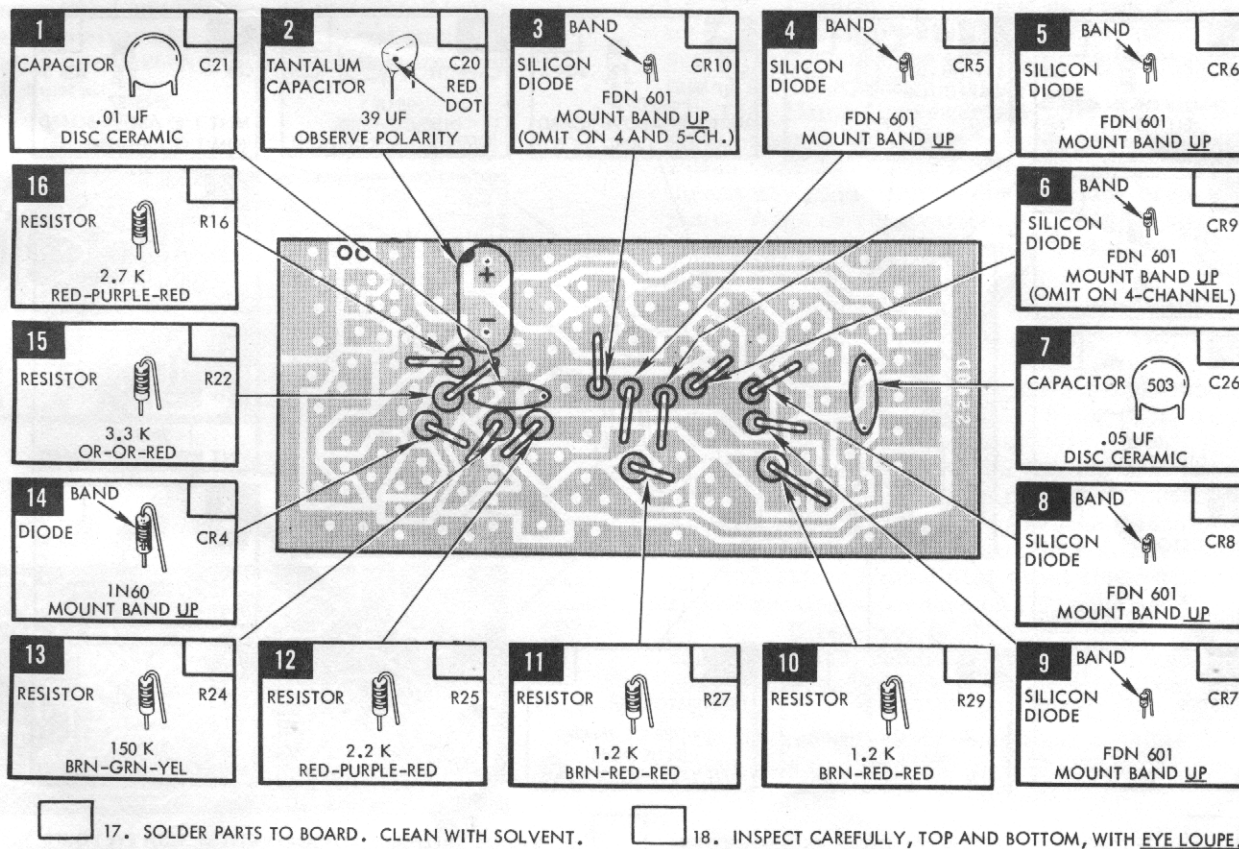
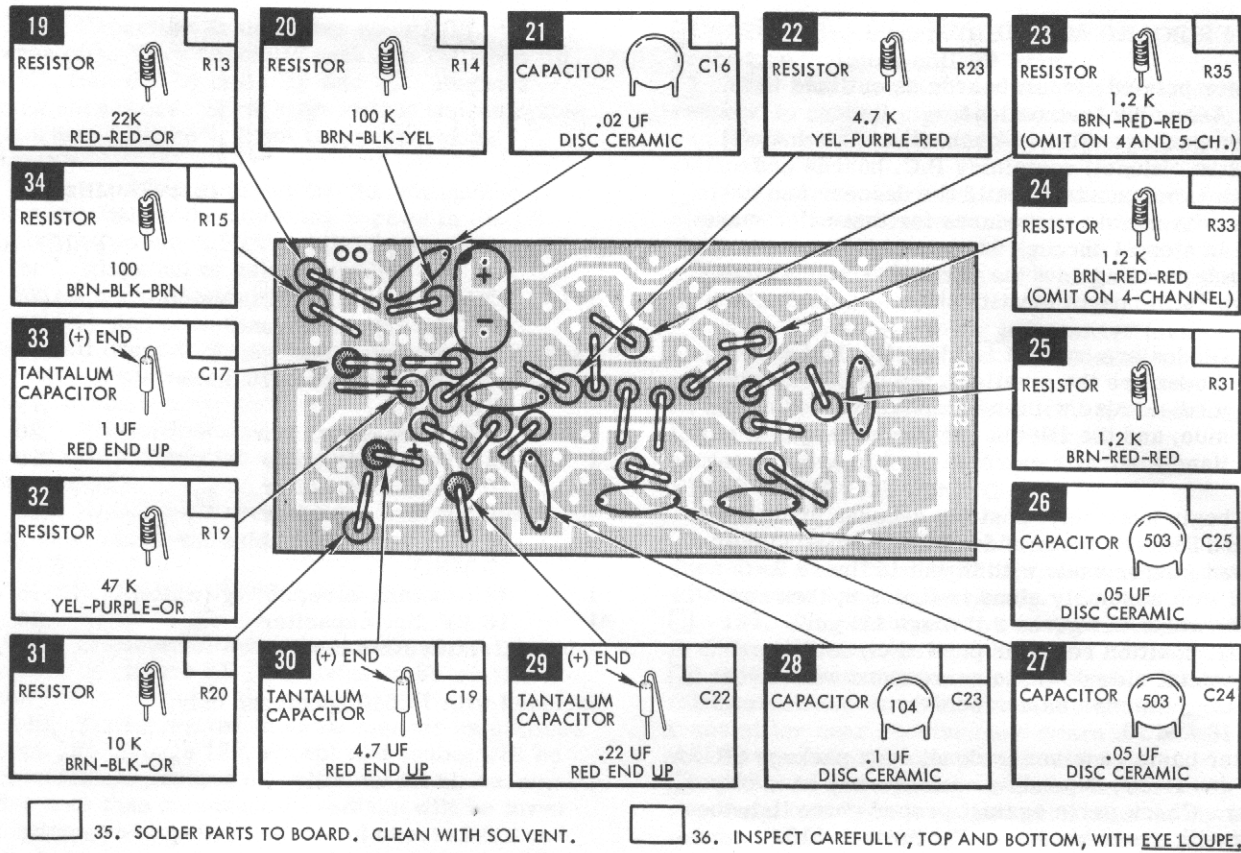

Figure 8. Decoder Assembly (Sheet 1 of 4)
Figure 9. Decoder Assembly (Sheet 2 of 4)
- c. Check parts against the parts lists and figures 8 through 16 for parts identification.
d. To begin assembly, position decoder printed circuit board S540-D, metal side down, so that hole arrangement corresponds with layout in figure 8. Proceed with assembly steps in figure 8, then continue with steps in figures 9 through 11.